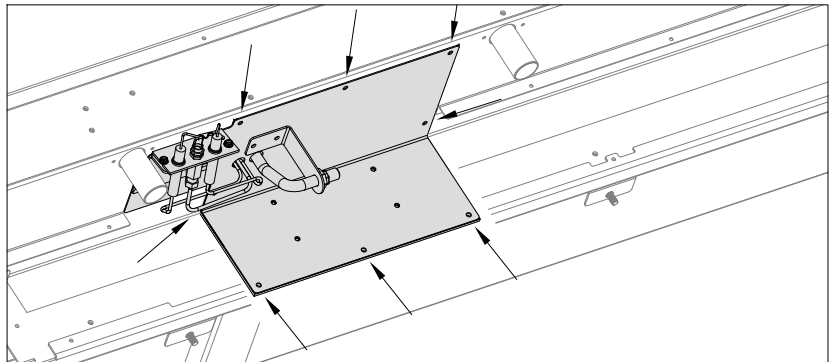

Figure 8.9 - Control Board Removal
7. Remove rear perimeter and media tray brace (7) screws. See Figure 8.9.
8. Remove bottom air diffuser (5) screws. See Figure 8.9.
9. Remove and save (8) screws securing the control board. See Figure 8.9.
10. Lift the control board out of the firebox, being careful not to damage the sealing gasket underneath. See Figure 8.9.